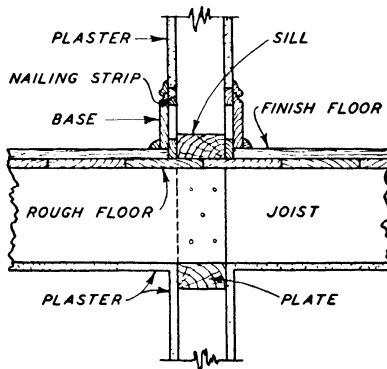

Fig. 47. Construction of Partition Wall
**Removing Baseboards.** To get the wiring down to a wall outlet from the ceiling, remove a baseboard in the wall, Fig. 47, which is